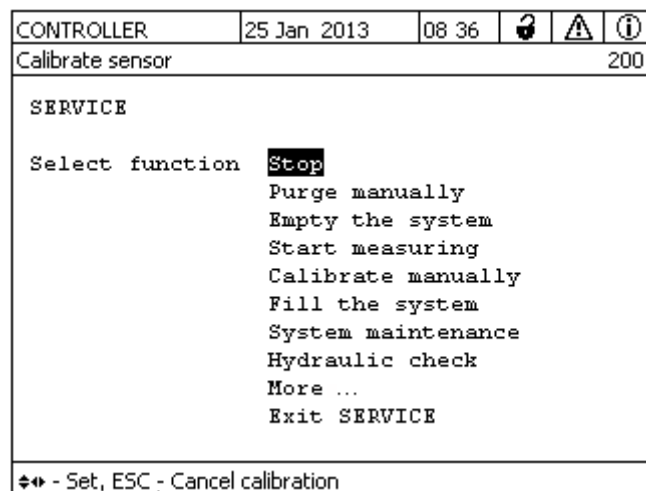

Fig. 3-22: Calibration and service menu
- 11 Confirm the maintenance condition with <OK>. The calibration and service menu is displayed. See Fig. 3-22,  47.